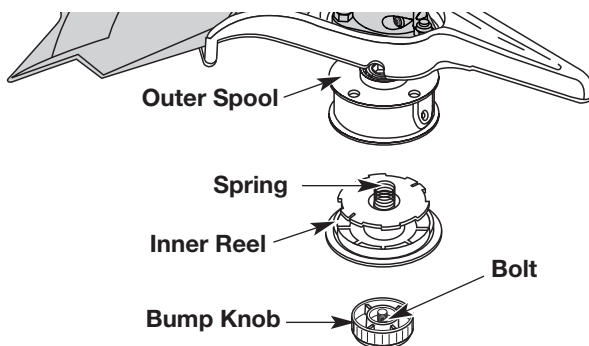

Fig. 31
1. Hold the outer spool with one hand and unscrew the Bump Knob clockwise (Fig. 31). Inspect the bolt inside the bump knob to make sure it moves freely. Replace the bump knob if damaged.
2. Remove the inner reel from the outer spool (Fig. 31).
3. Remove spring from the inner reel (Fig. 31).
1. Hold the outer spool with one hand and unscrew the bump knob clockwise (Fig. 31). Inspect the bolt inside the bump knob to make sure it moves freely. Replace the bump knob if damaged.
2. Remove the old inner reel from the outer spool (Fig. 31).
3. Remove the spring from the old inner reel (Fig. 31).